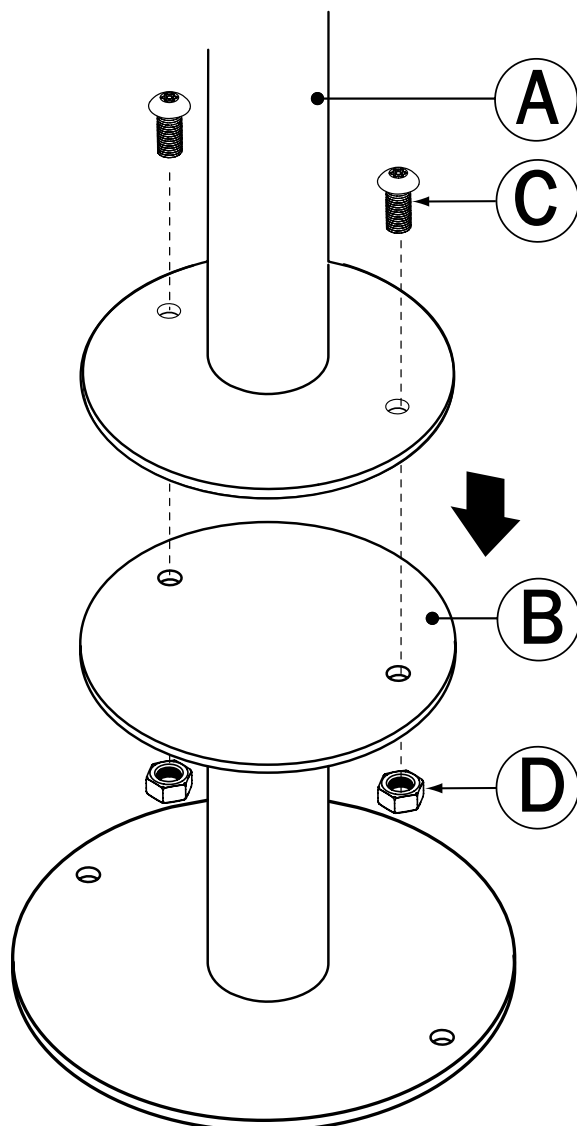

Figure 1.
2. Connect Footer(B) to Lower Post(A) using (2) Bolts(C) and (2) Lock Nuts(D). See Figure1.
**NOTE: 8" Footer(B) shown in illustration.